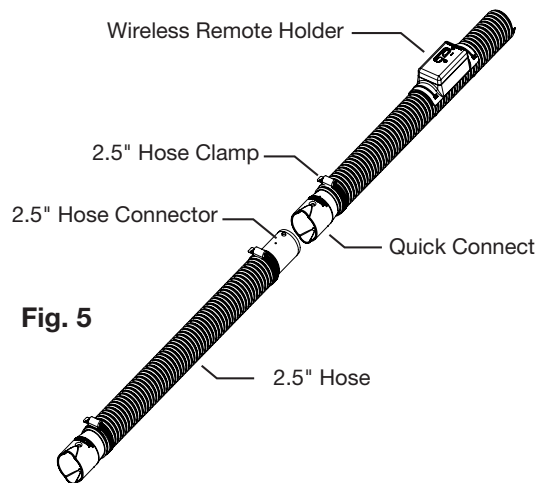

Fig. 5
- **2.5" Hose (Fig 5)** This is a separate part of the system which attaches to the outlet of the base. The TrueComfort machine is supplied with two 50' sections of blowing hose. The two sections can be coupled – for a total of 100' – using supplied couplings.